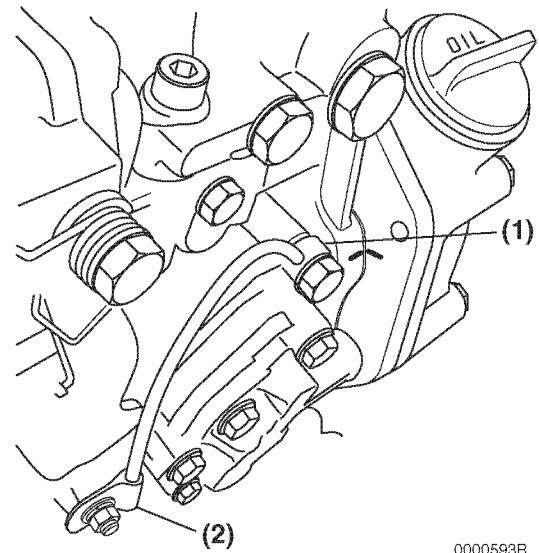

Figure 7-30
7. Reconnect the throttle linkage and the stop solenoid connector **(Figure 7-30, (2))**.
8. Reconnect the lube oil line **(Figure 7-30, (1))** and clamp **(Figure 7-30, (2))**.